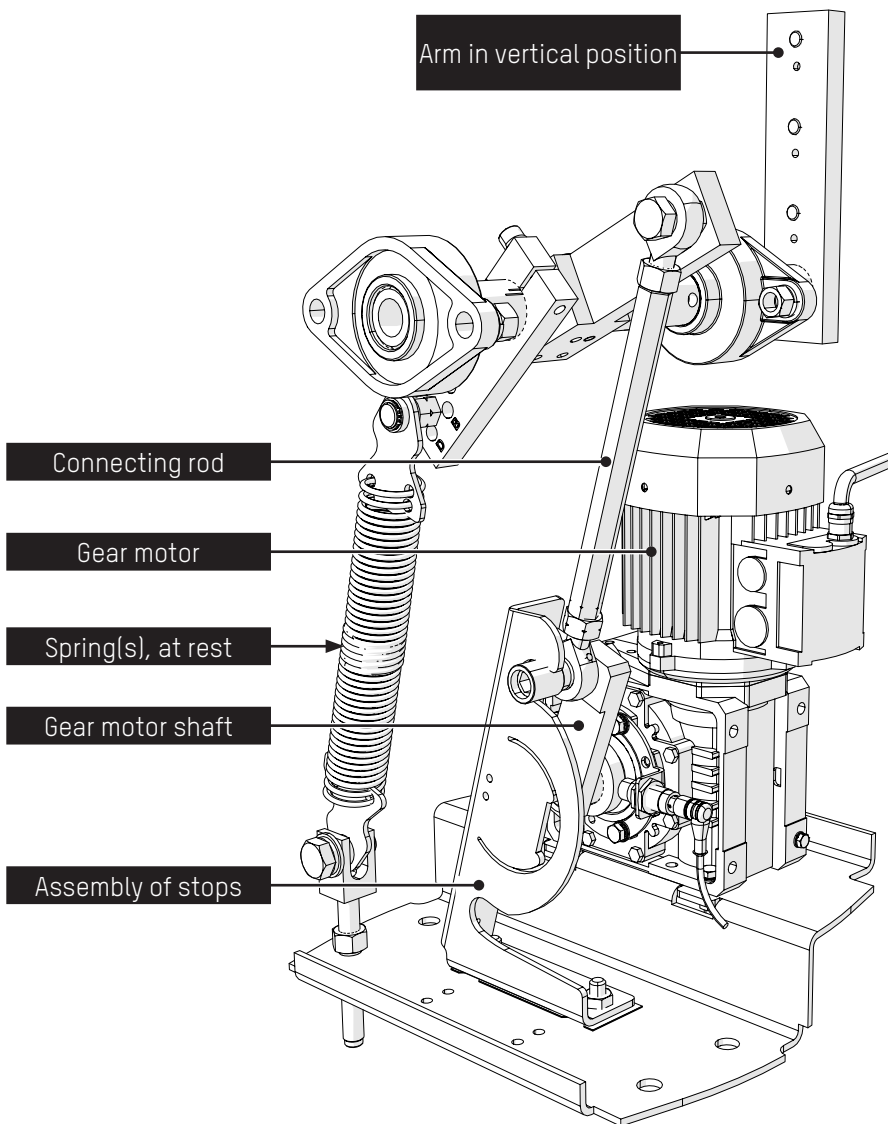

Fig. 32 - Gate mechanism in open position
2. Thanks to the unlocking lever, unlock the mechanism and place the gate arm in open position (⇒ Fig. 32, page 34);